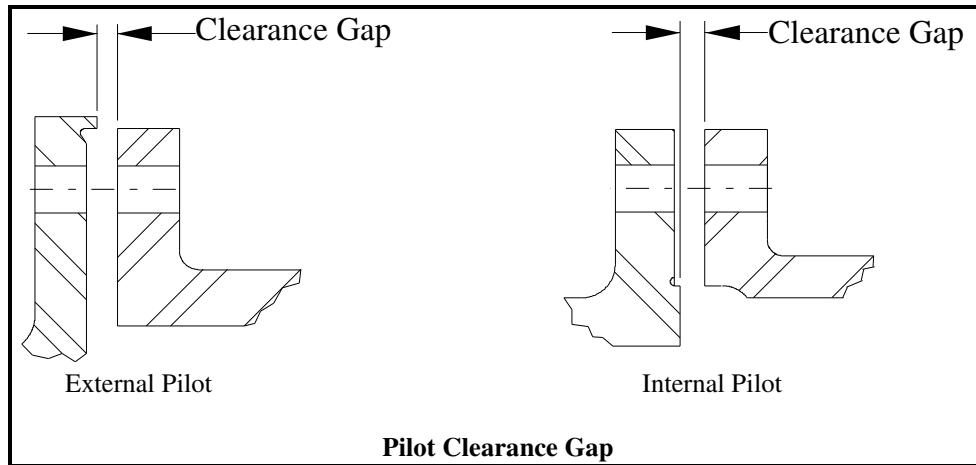

Figure 4-11
- 4.7.1.2 Remove the spacer flange bolts at one end of the spacer. Support the spacer and, using the tapped jacking holes provided, disengage the pilot at that end to obtain a clearance of .005 - .010 IN. (.127 - .254 mm) between the spacer and the splined adapter pilots (see Figure 4-11).
4.7.2.2 Remove the spacer flange bolts at one end of the spacer. Support the spacer and using the tapped jacking holes provided, disengage the pilot at that end to obtain a clearance of .005 - .010 IN (.127 - .254 mm) between the spacer and the pack adapter pilots (see Figure 4-11).
4.7.3.4 Using the tapped jacking holes provided in the flanges, disengage the spacer ring to flange pilots at both ends of the coupling to obtain a clearance of .005 - .010 IN. (.127 - .254 mm) between the spacer ring pilot and the flange at both ends of the coupling (see Figure 4-11).